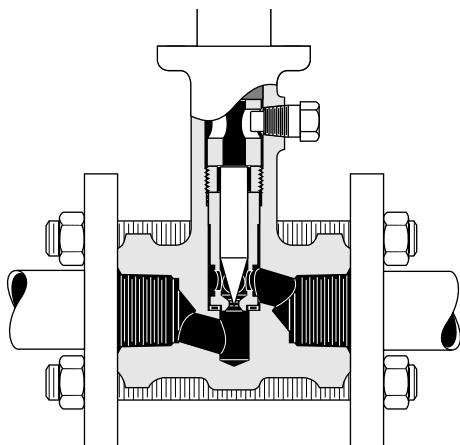

Figure 7 - VariPak flanged connection
3.2 VALVE INSTALLATION (Figures 7, 8 and 9)
(Figures 7, 25, 26 and 27)